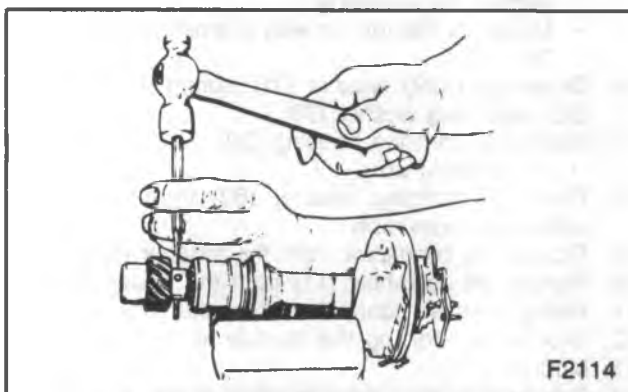

Figure 25—Removing the Roll Pin
2. Cap (29) from the housing.
3. Rotor (10) from the shaft by lifting or prying straight up.
4. Roll pin (27) from the shaft (26).
- Drive out the roll pin with a small punch (figure 25).
5. Driven gear (29), washer or spring, and spring retainer (52) or tan washer (33).
6. Shaft (26) with the pole piece and plate from the housing (30).
7. Retainer (49) from the housing (30) by prying it with a screwdriver.
8. Shield (50).
9. Pickup coil connector from the module (14).
10. Pickup coil (11).
12. Module (14).
2. Rotor (10).
4. Hall Effect switch (35) by lifting straight up.
5. Roll pin (26) from the shaft (27).
6. Driven gear (29), washer (31), spring (51), retainer (52), and tang washer (33).
7. Shaft (27) from the housing (30).
8. Thin "C" retaining washer (53) from inside the pickup coil assembly.
10. Pickup coil assembly (11) from the housing.
11. Wiring harness connectors from the module (14).
13. Module (14).